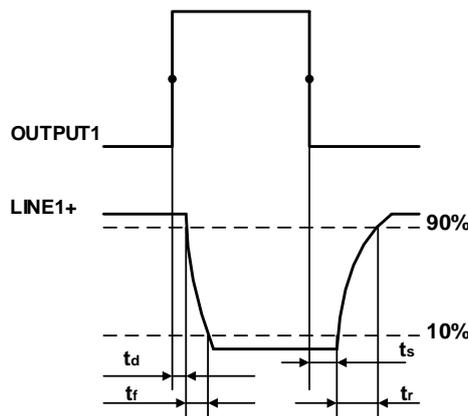

Figure 7-13 Parameter of opto-isolated output circuit
- Rising time delay = td+tf: <50μs (0°C~45°C) (parameter description is shown in Figure 7-13)
- Falling time delay = ts+tr: <50μs (0°C~45°C) (parameter description is shown in Figure 7-13)